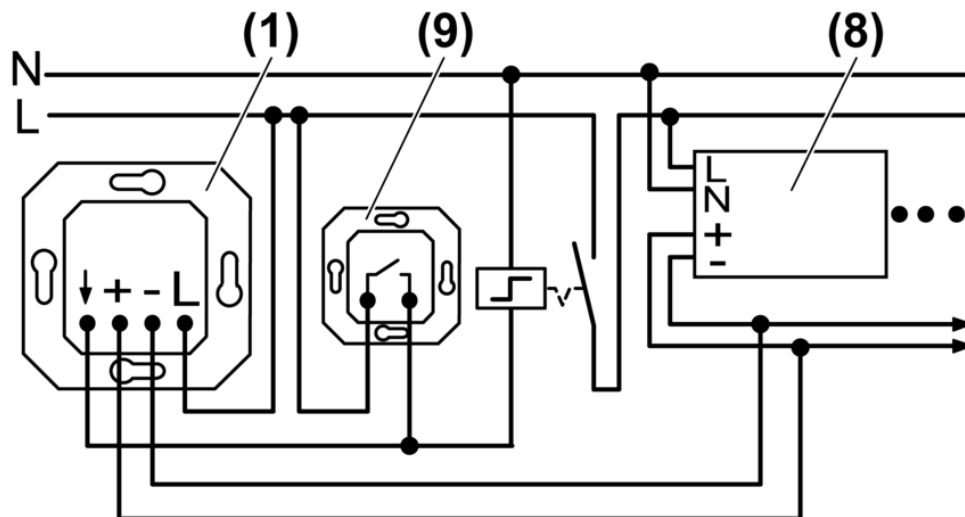

Figure 5: Connection diagram for potentiometer with push-button function and extension
- Adjusting basic brightness (figure 5).